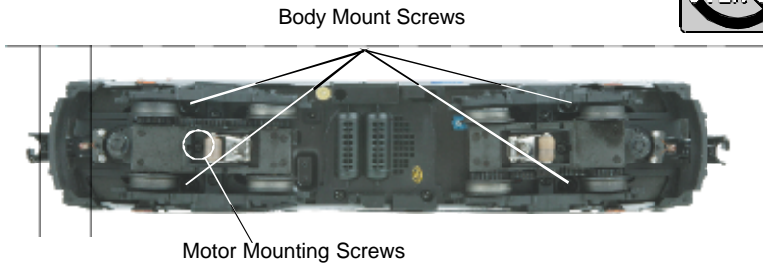
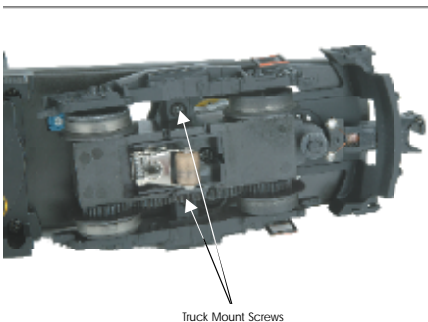

Figure 3: Body Removal Screw Locations
Figure 5: Truck Mount Screws
1. To access the gear box, remove the cab from the chassis by unscrewing the chassis screws as seen in Figure 3 and lifting the cab from the chassis.
2. Once the cab is removed, remove the trucks by unscrewing the black Phillips motor mount screw located on the underside of the drive trucks (see Fig. 3).
First, remove the truck sides from the truck block by unscrewing the mounting screws as noted in Figure 3, then remove the 4 screws noted in Figure 5 which will release the truck frames from the truck block.